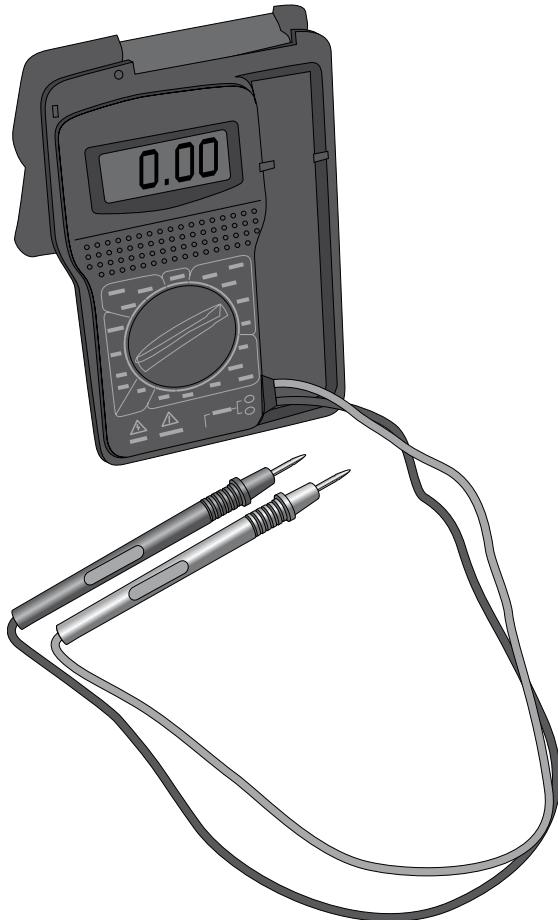

Figure 2-3:
- ✓ To find out how much voltage exists between two points, you use a *voltmeter*, a device with two wire test leads that you touch to different points in a circuit to measure the voltage between those points. Figure 2-3 shows a typical voltmeter. (In fact, this meter is a *multimeter*, which simply means that it can measure things other than voltage as well. In the figure, the multimeter is functioning as a voltmeter. For more information about using a voltmeter, refer to Chapter 8 of this minibook.)